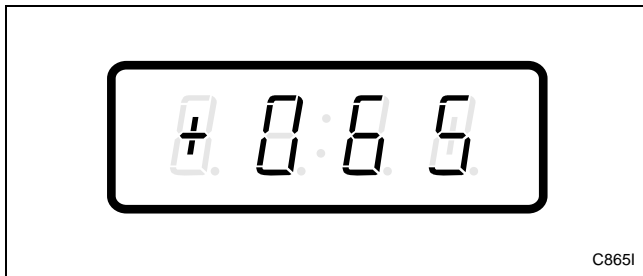

Figure 163
3. Press the DELICATES (+) or the COLD (-) keypad to scroll through the programmable options until “+065” appears in the VFD. Refer to *Figure 163*.